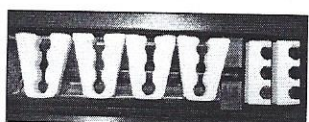

Figure 2
3. Press to secure adhesive. See Figure 2 for completed application.